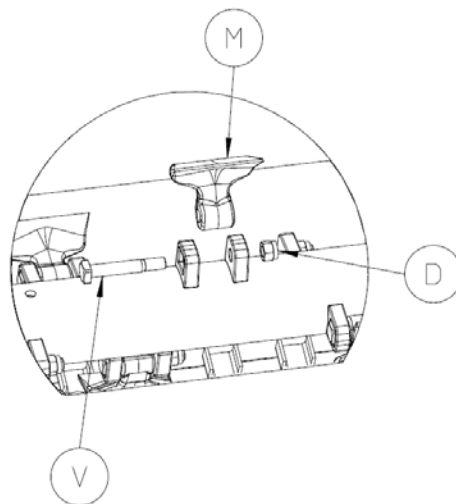

Figure 47
- Loosen the nut D, hold the hammer flail M and slide the screw V out (Figure 47). When the hammer flail has been removed, check the state of wear of the supports, in particular the ovalisation of the holes, the square seat of the screw head and peripheral wear. If the phenomena described are present, contact the manufacturer for indications..